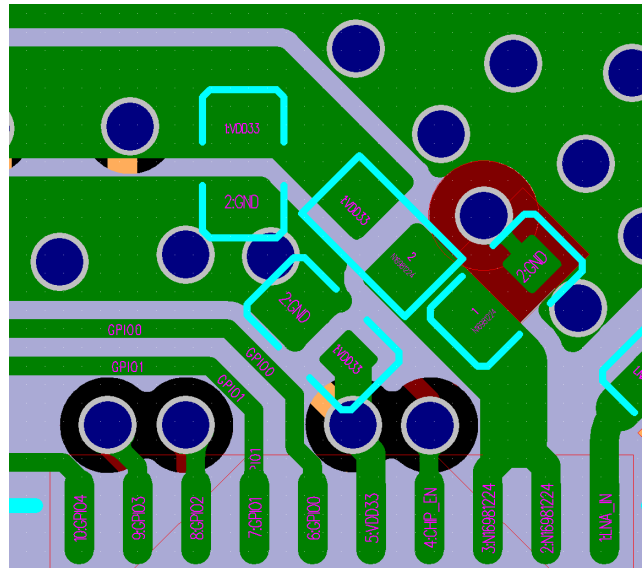

Figure 18: ESP32-C6 Analog Power Traces in a Four-layer PCB Design
- As shown in Figure 18, it is recommended to connect the capacitor to ground in the CLC filter circuit near VDDA3P3 to the fourth layer through a via, and maintain a keep-out area on other layers. The purpose is to further reduce harmonic interference.